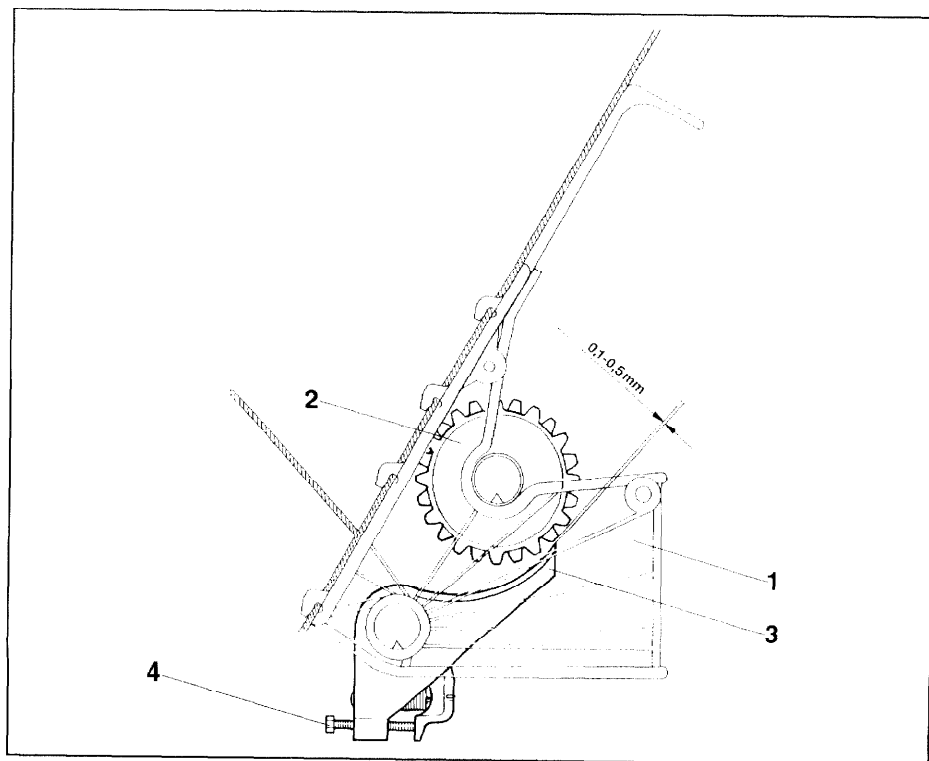

Fig. 130
- 2) Check whether the prescribed spacing of 0.1 mm to 0.5 mm (see Fig. 130) between the bottom flap (Fig. 130/3) and metering wheel (Fig. 130/2) of each metering wheel housing is maintained. For this the metering wheel to be checked should be turned by hand on the metering shaft.
- 3) In case of deviations set the prescribed spacing at the spring tensioning screw (Fig. 130/4).